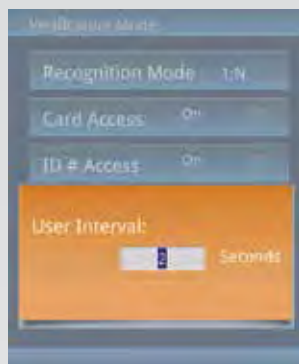

Fig 7.17-1
- In the User Interval menu, enter the number of seconds for the interval up to 999999 seconds. Use the **◀** key to backspace if necessary. (**Fig 7.17-1**)